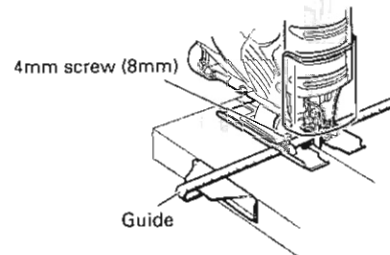

Fig. 6
- (1) To ensure accurate rectilinear cutting, employ the optional accessory guide as shown in Fig. 6.